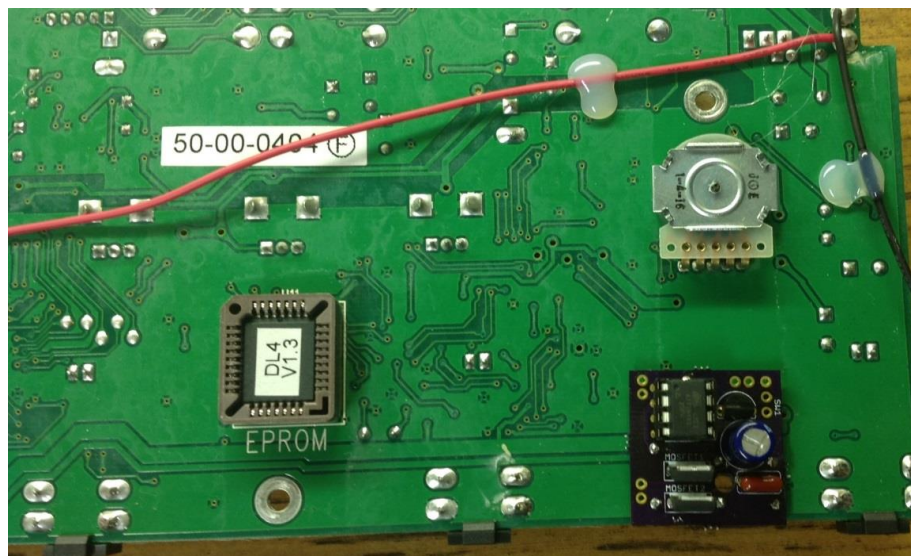

Figure 6.1
1. Locate the SS PCB target location on the back side of your DL4. I usually place it on the bottom right-hand side in-between switch 1 and switch 2 (the labels for the switches are on the top side of the DL4 PCB right above the plastic pieces on the switches). Note that the hole in the SS PCB will line up with the screw hole in the DL4 PCB. Make sure that all wires can reach from their spot on the DL4 PCB to the screw hole. (Figure 6.1)